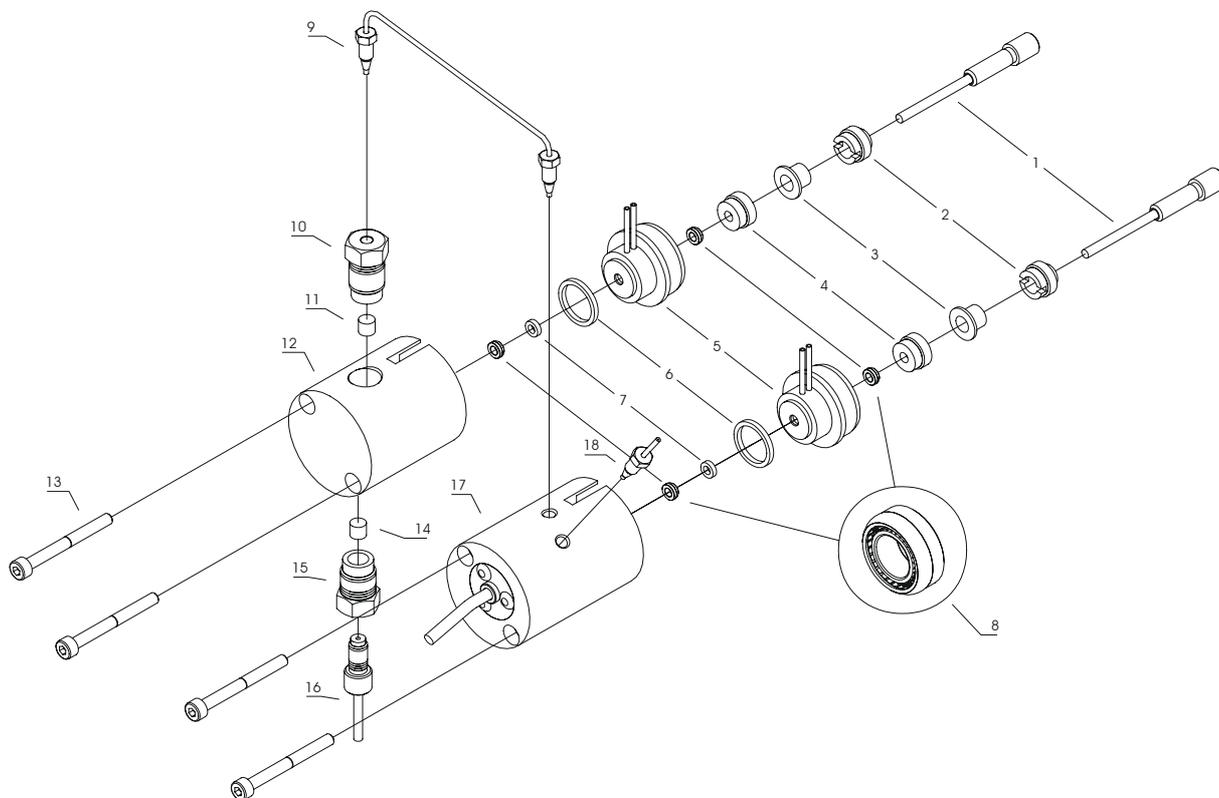

Fig. 56: Fluid system of P680 pumps; here: P680A ISO and P680A LPG-4 modes
- For all P680 pumps except the P680P HPG-2 pump: Insert the new valve cartridge. Make sure you insert the cartridge in the direction of solvent flow direction, as indicated by the arrow on the cartridge (→ Fig. 56). Tighten the valve. This step is not required for the P680P HPG-2 pump because the valve cartridge is already part of the valves. With semi-preparative valves, it is always necessary to replace or clean the entire valve.
- Remove the bushing with draining device (→ Fig. 56, no. 3) from the piston unit (→ Fig. 56, no. 1), using the extractor from the pump's accessories kit (→ Fig. 60 to Fig. 62).
- Loosen the piston retaining screw (→ Fig. 56, no. 2), using the flat-blade screwdriver (provided in the accessories kit). Move the piston forward, toward the front cover of the pump, and remove it from the enclosure.
- Use a disassembled piston to remove the piston seal from the pump head (→ Fig. 56, no. 8). On the working pump head (with valve cartridges), use a dummy plug (FS-8, part no. 2261.1100) to close the outlet valve. On the equilibration pump head, close the boreholes with dummy plugs. Insert the piston tip into the piston seal. The pressure loosens the seal. If you cannot remove the piston seal in this way, use an M4 screw; for example, the one used for holding the pump heads. Insert the screw into the seal. Remove the seal. This procedure destroys the piston seal!